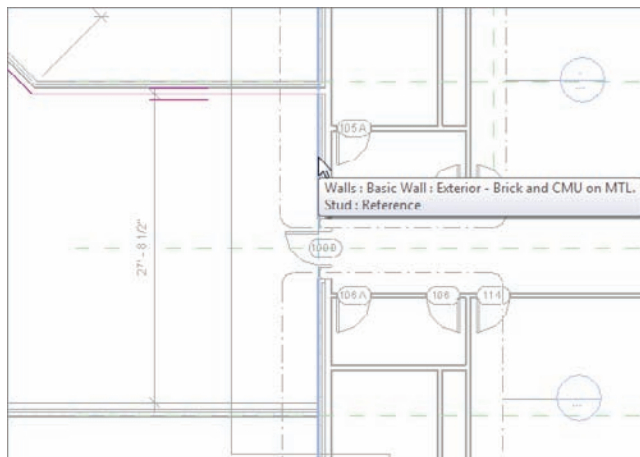

FIGURE 6.14 Picking the face of the east wall. The line will run past the corridor. That's okay. You will trim it in a moment.
6. Pick the face of the east wall, as shown in Figure 6.14.